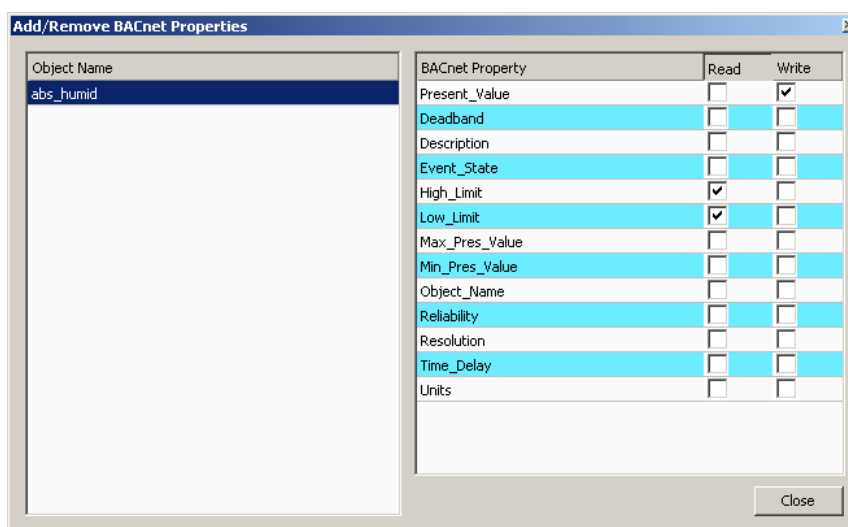

Figure 136: Dialog for adding/removing BACnet properties.
2. Right-click on the data point and select `Add/Remove BACnet properties ...`. The dialog appears as shown in Figure 136.